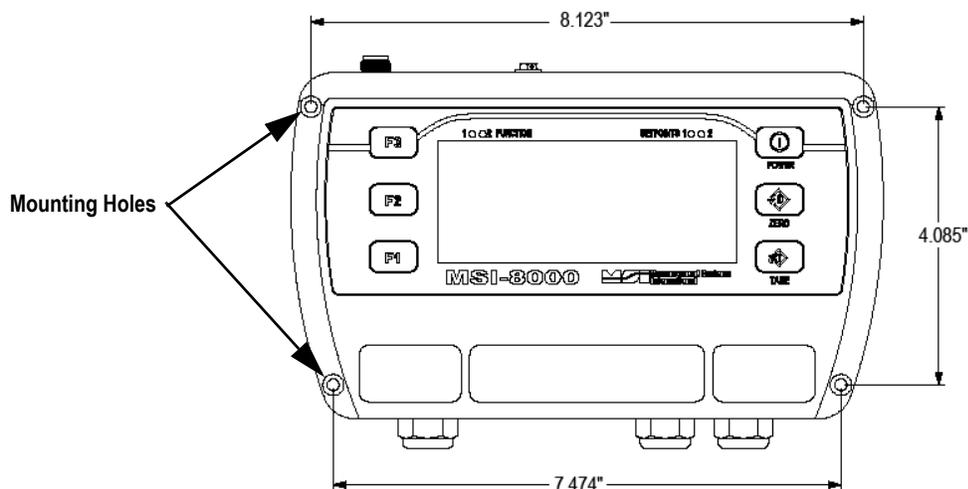

Figure 2-5. Mounting Hole Dimensions
2. Mark the hole location. This can also be done by measuring according to the dimensions in Figure 2-5.